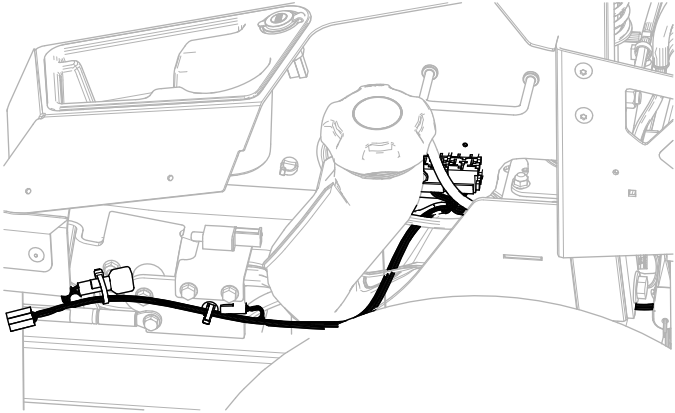

Figure 12
2. Route the wire harness (Figure 12) along the left side of the frame, through the push-mount fastener you installed in step 1.